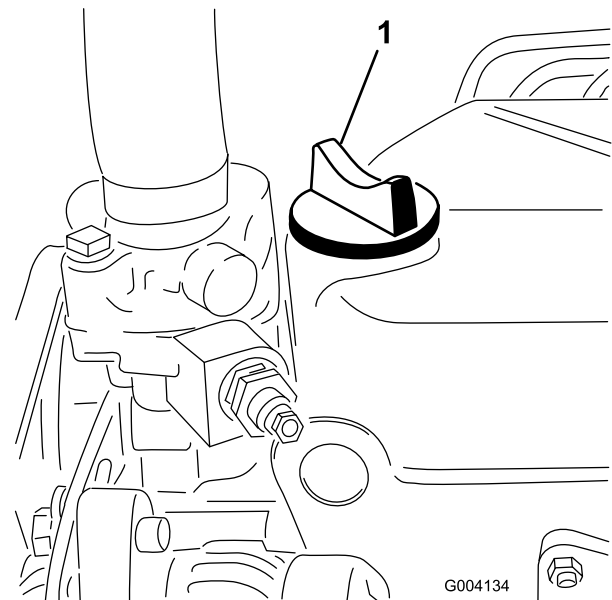

Figure 31
5. If the oil level is below the Full mark, remove the fill cap (Figure 31) and add oil until level reaches the Full mark on dipstick.